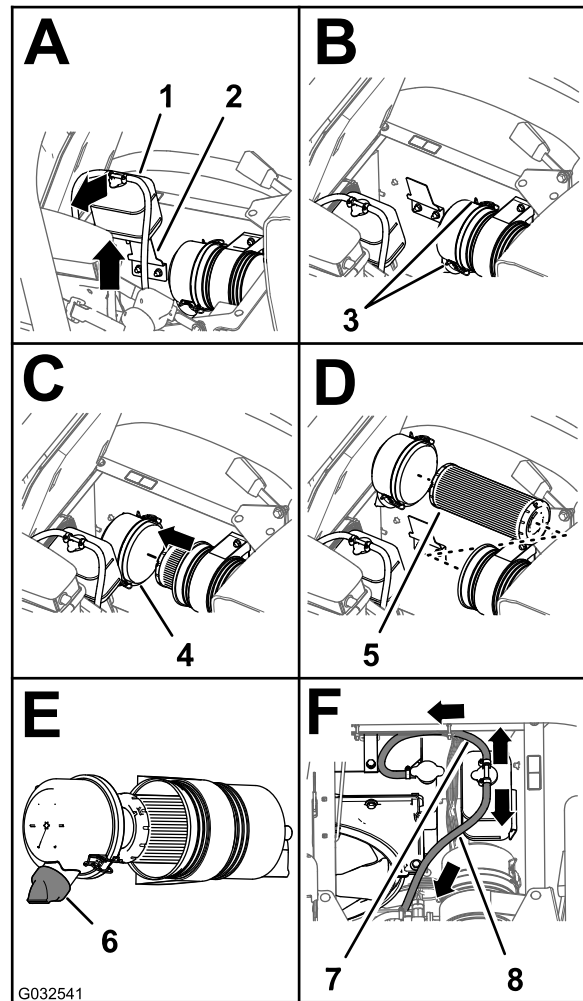

Figure 69
3. Lift the coolant-overflow tank up and off the tank-support bracket (Figure 69).
4. Loosen the 2 latches that secure the dust cap to the air-cleaner body (Figure 69).
6. Clean the inside of the dust cap, air-cleaner body, and dust valve with a damp rag (Figure 68 and Figure 69).
7. Insert the air-filter element into the air-cleaner body (Figure 69).
8. Install the cover onto the air-cleaner body and secure the cover with the 2 latches (Figure 69).
Note: Ensure that the dust valve is aligned between the 5 to 7 o'clock position when viewed from the end (Figure 69).
9. Align the coolant-overflow tank to the tank-support bracket and seat the tank firmly (Figure 69).
Important: Ensure that the pressure-relief hose is routed forward and down, and the tank-vent hose is routed rearward as shown in Figure 69.